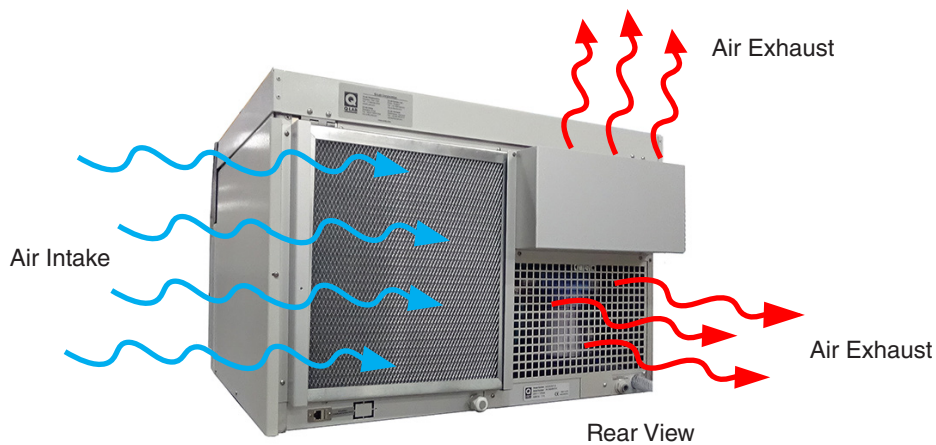

Figure 10.3b: Rear view Xe-1-SE air intake and exhaust areas.
- Air is pulled into the tester through a filter and exhausted through vents in the rear of the chamber (Figure 10.3b).